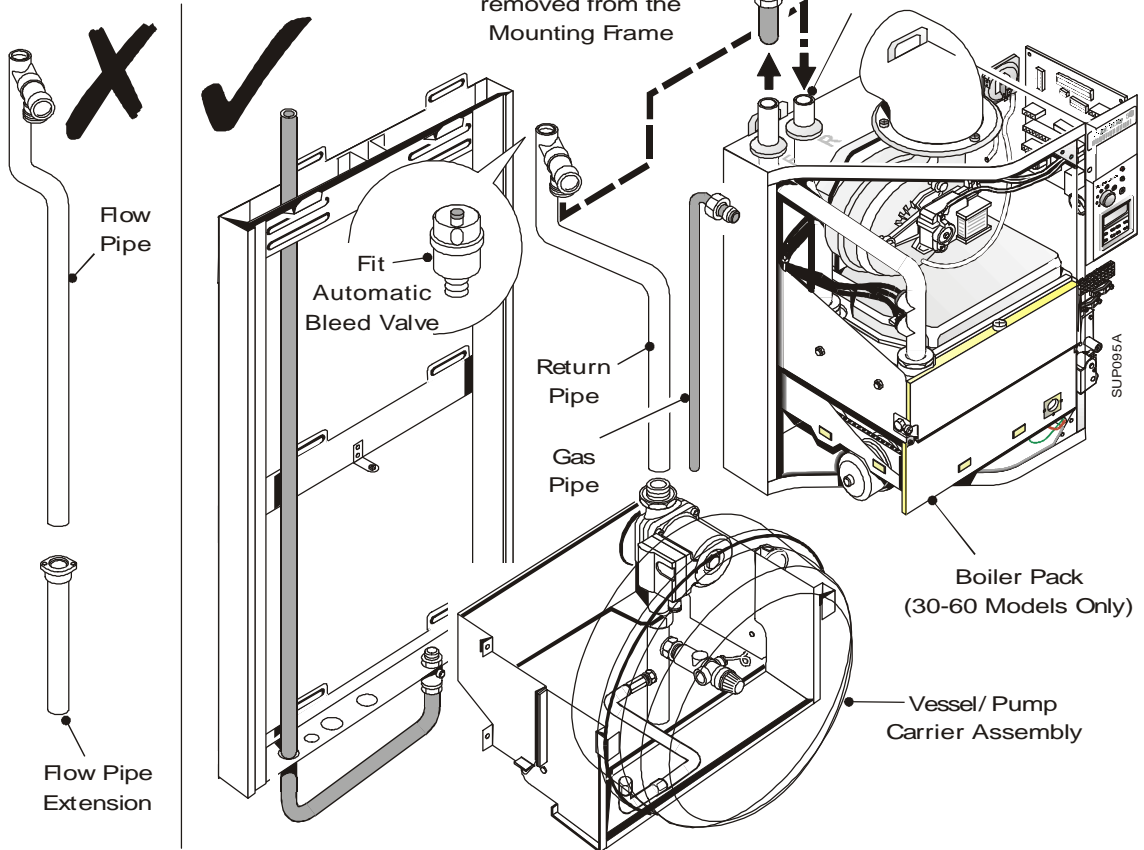

Fig. 5
- d. The additional pipework is to be in 22mm dia. copper tube (not supplied), see fig.5 for pipework layout.